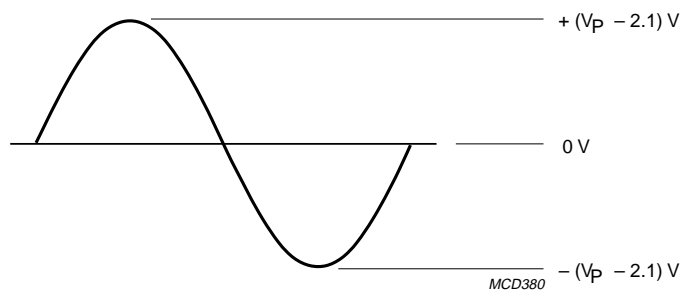

Fig.4 Typical output voltage swing over  $R_L$ .
2. The output voltage swing is typically limited to  $2 \times (V_P - 2.1\text{ V})$  (see Fig.4).